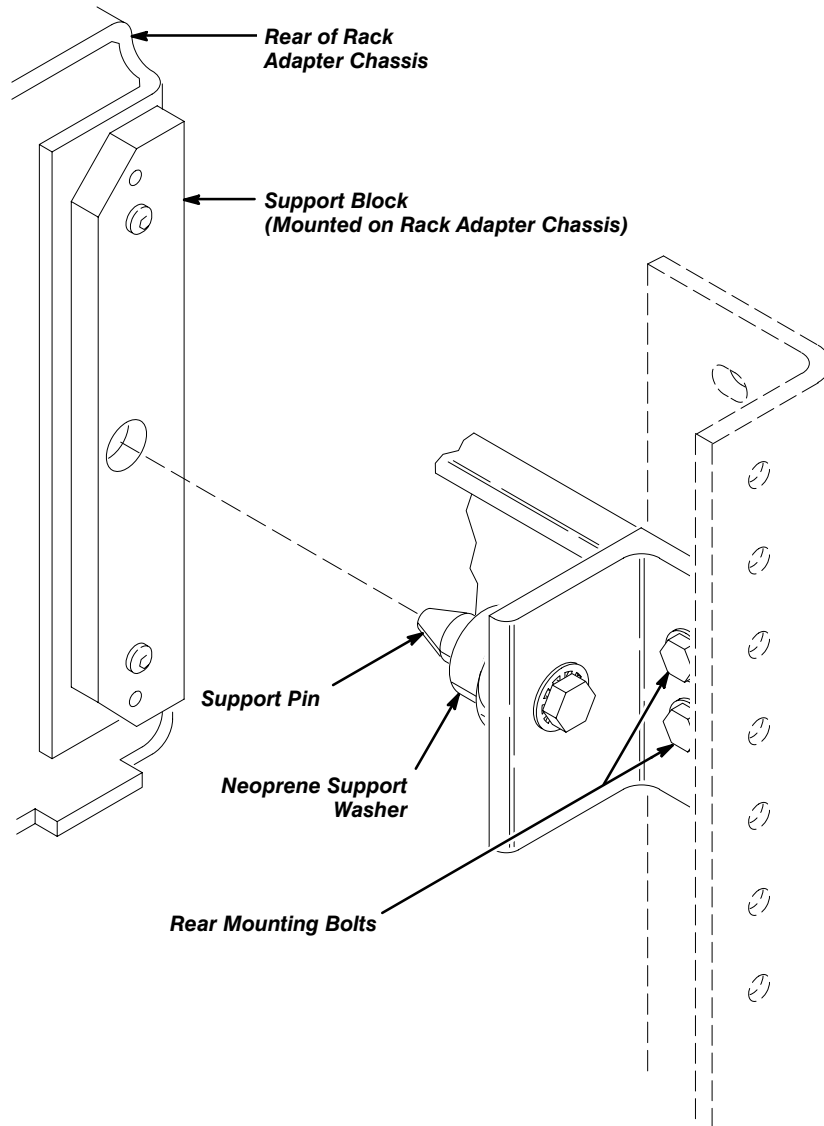

Figure 24: Mating the Support Pin with the Adapted Instrument
- b. Adjust the angle brackets until the neoprene washers on the support pins are firmly seated against the support blocks. See Figure 24.